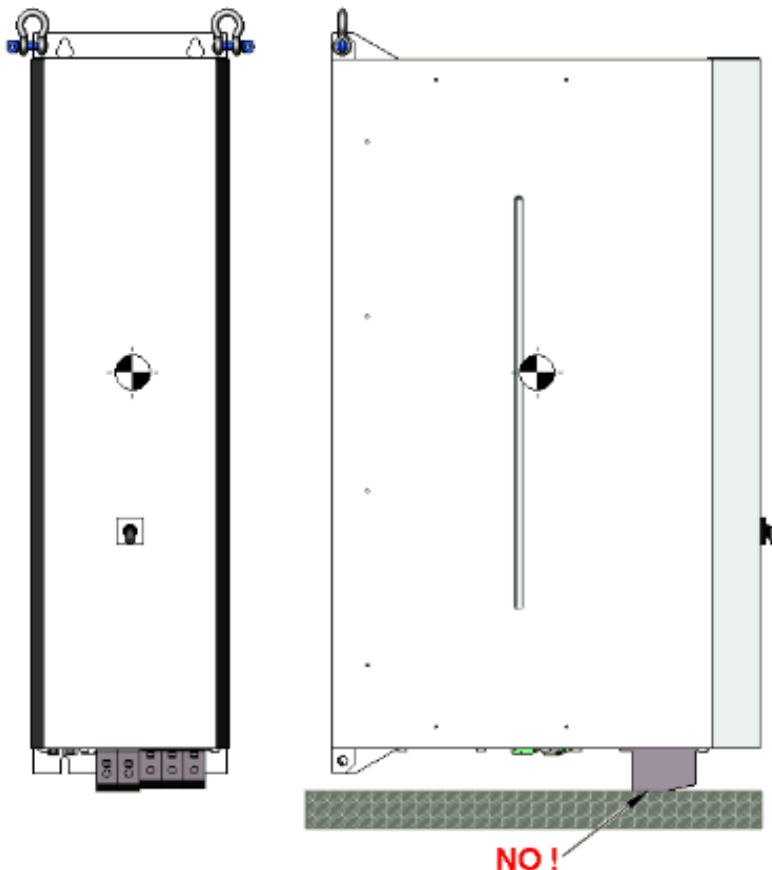

Figure 9: A2 module's centre of gravity
- The device **MUST NOT** stand on its own as shown in Figure 9 – this may damage the bottom connectors